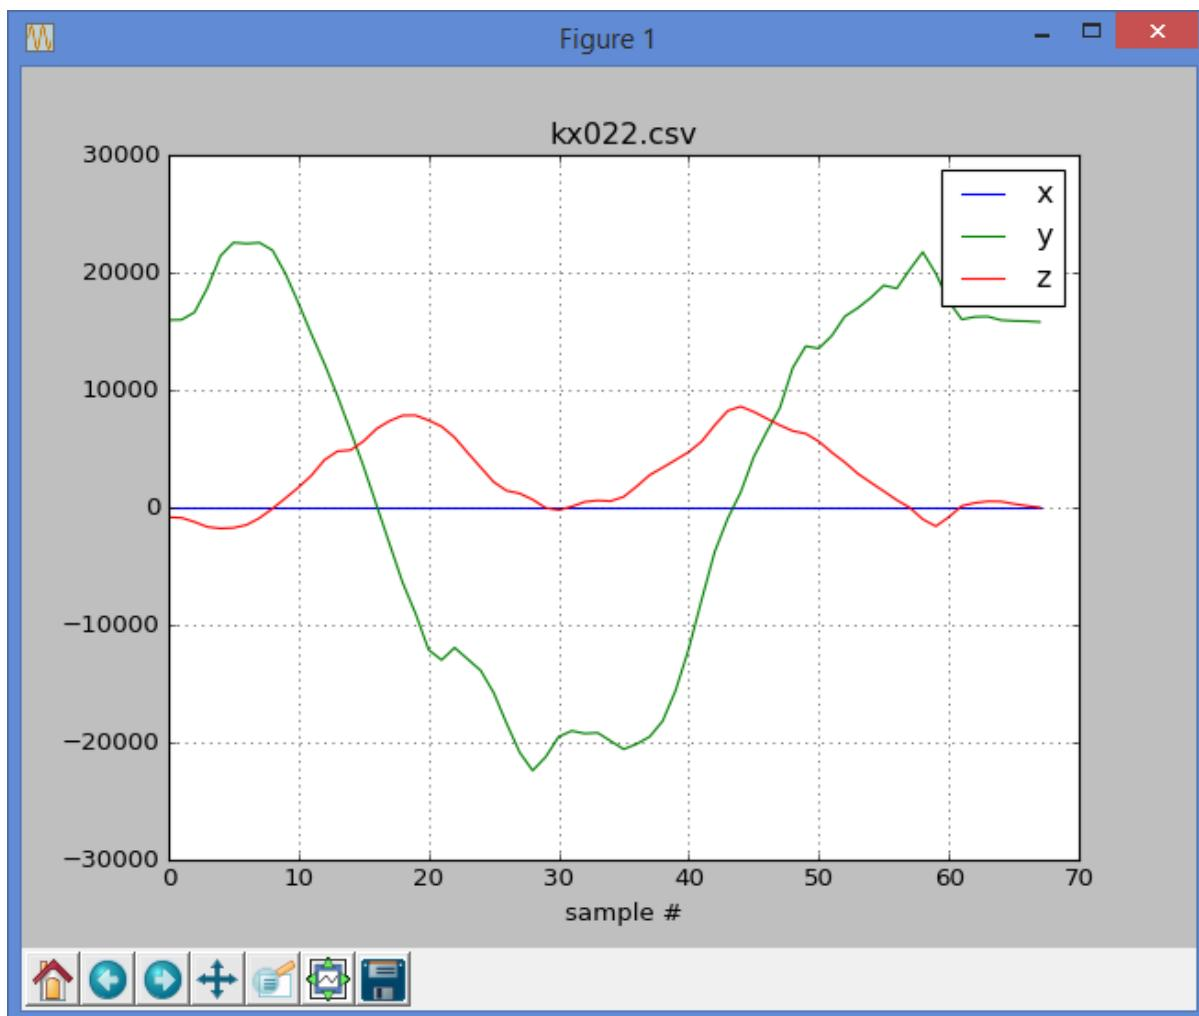

Figure 43: Recorded signals shown by the `plot.py` application.
- It is possible to view the recorded log with the `plot.py` application (Figure 43):